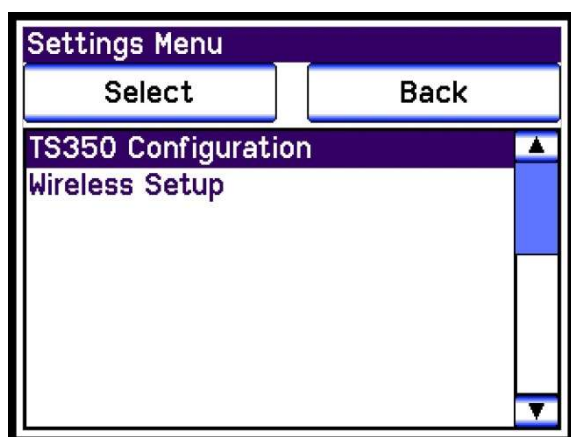

Figure 22
- Highlight **Wireless Setup** (Figure 22)